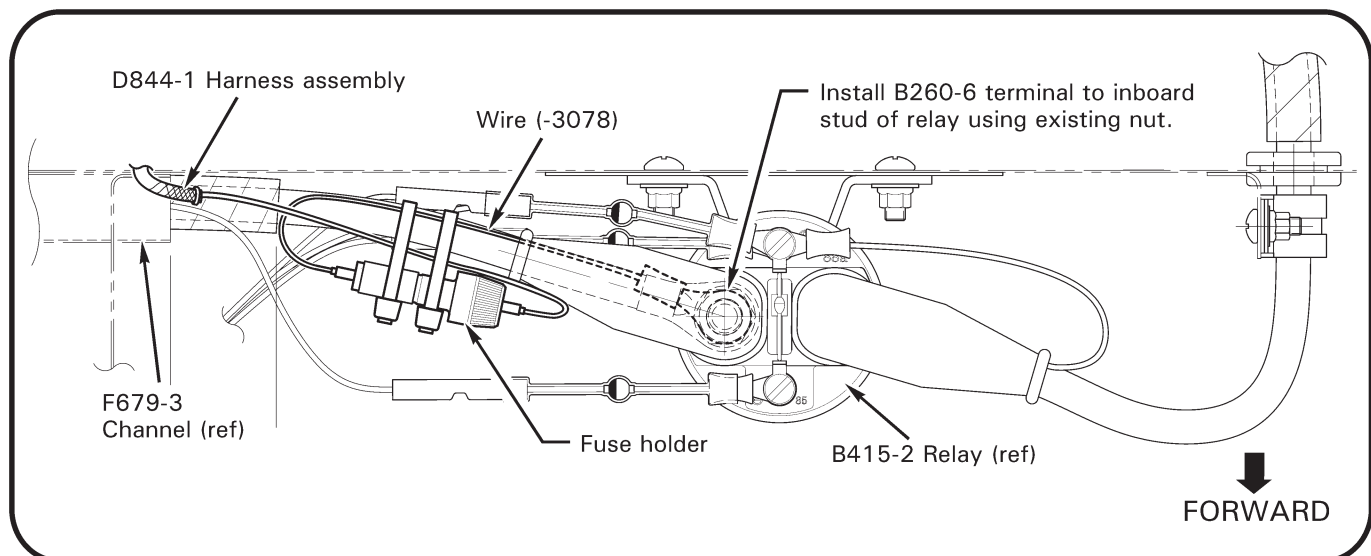

FIGURE 4A Installing & securing fuse holder
- c. Route wire (-3078) to B415-2 battery relay. Remove nipple from relay's inboard stud. Insert wire (-3078) B260-6 terminal thru nipple and install to relay as shown in Figure 4A. Special torque nut per MM § 20-33 and torque stripe per MM Figure 5-1. Position nipple over stud.